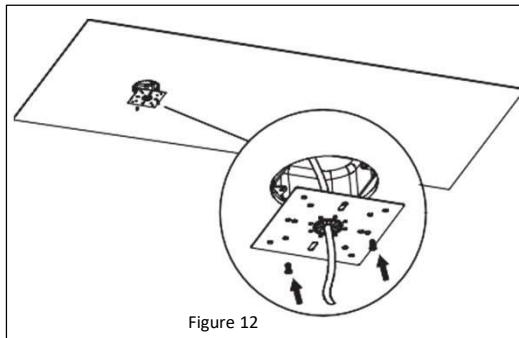

Figure 12
1. Attach the square plate to the junction-box with the supplied screws. *See Figure 12.*